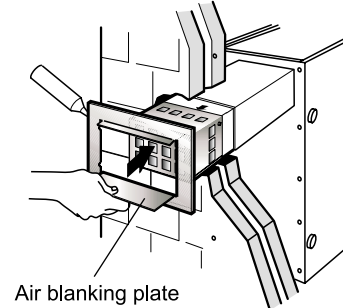

Fig. 27
- Make good the hole in the wall and fit the terminal dress plate using a suitable mastic sealant (not supplied) to provide a weatherproof seal. See Fig. 27.
Ensure that the air blanking plate of the terminal dress plate covers the air intake holes on the underside of the flue terminal as shown in Fig. 27.